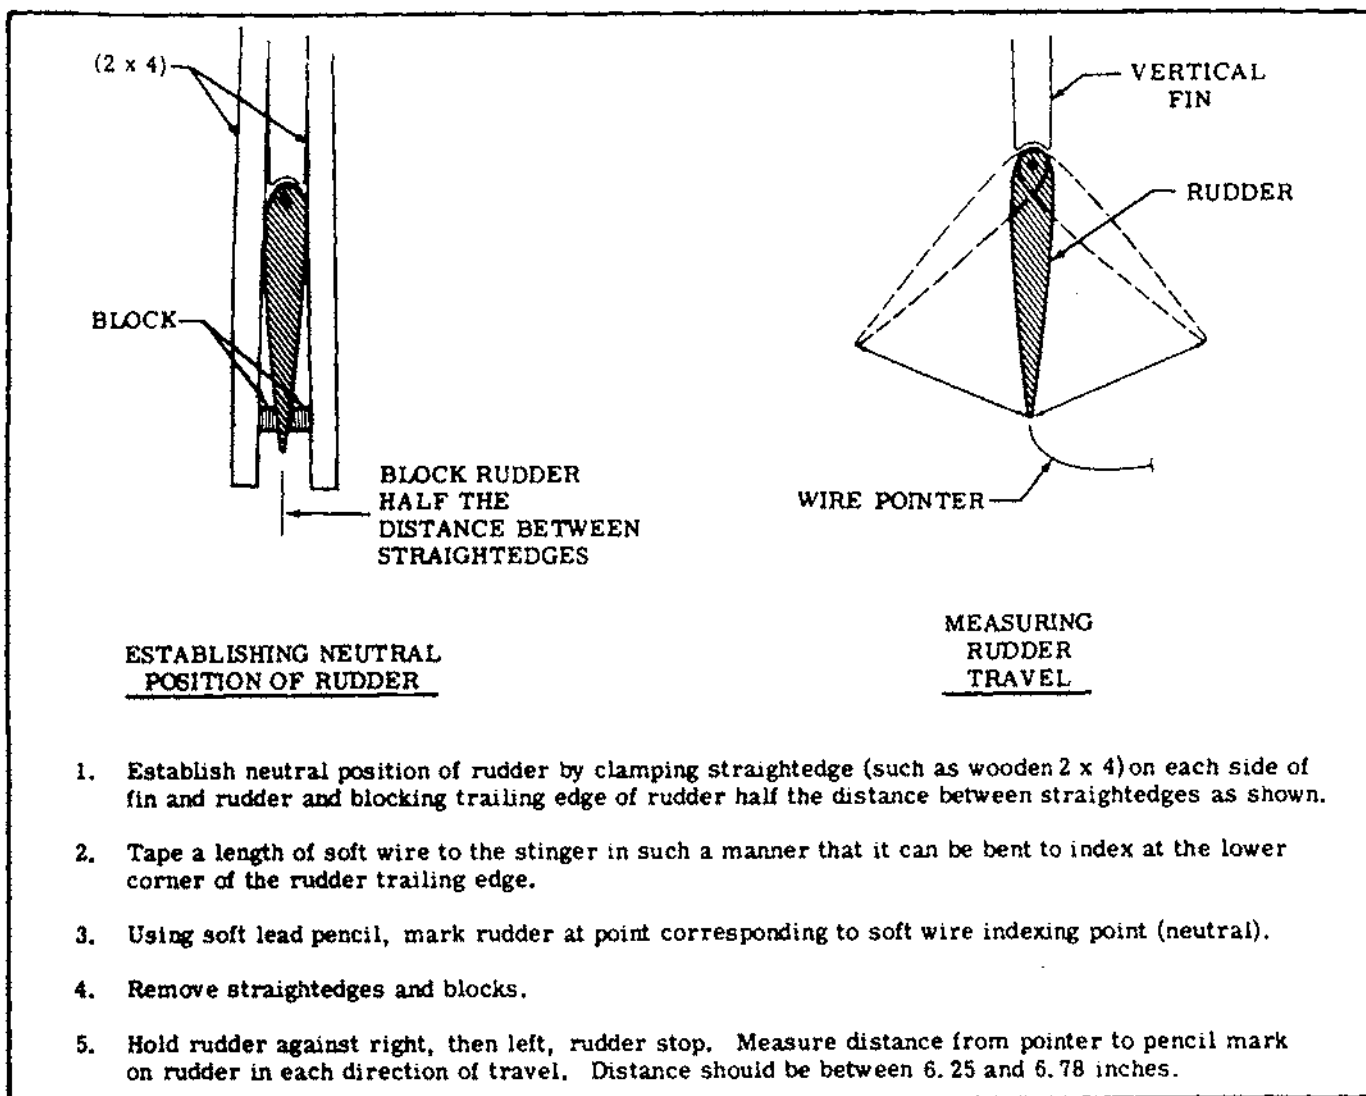
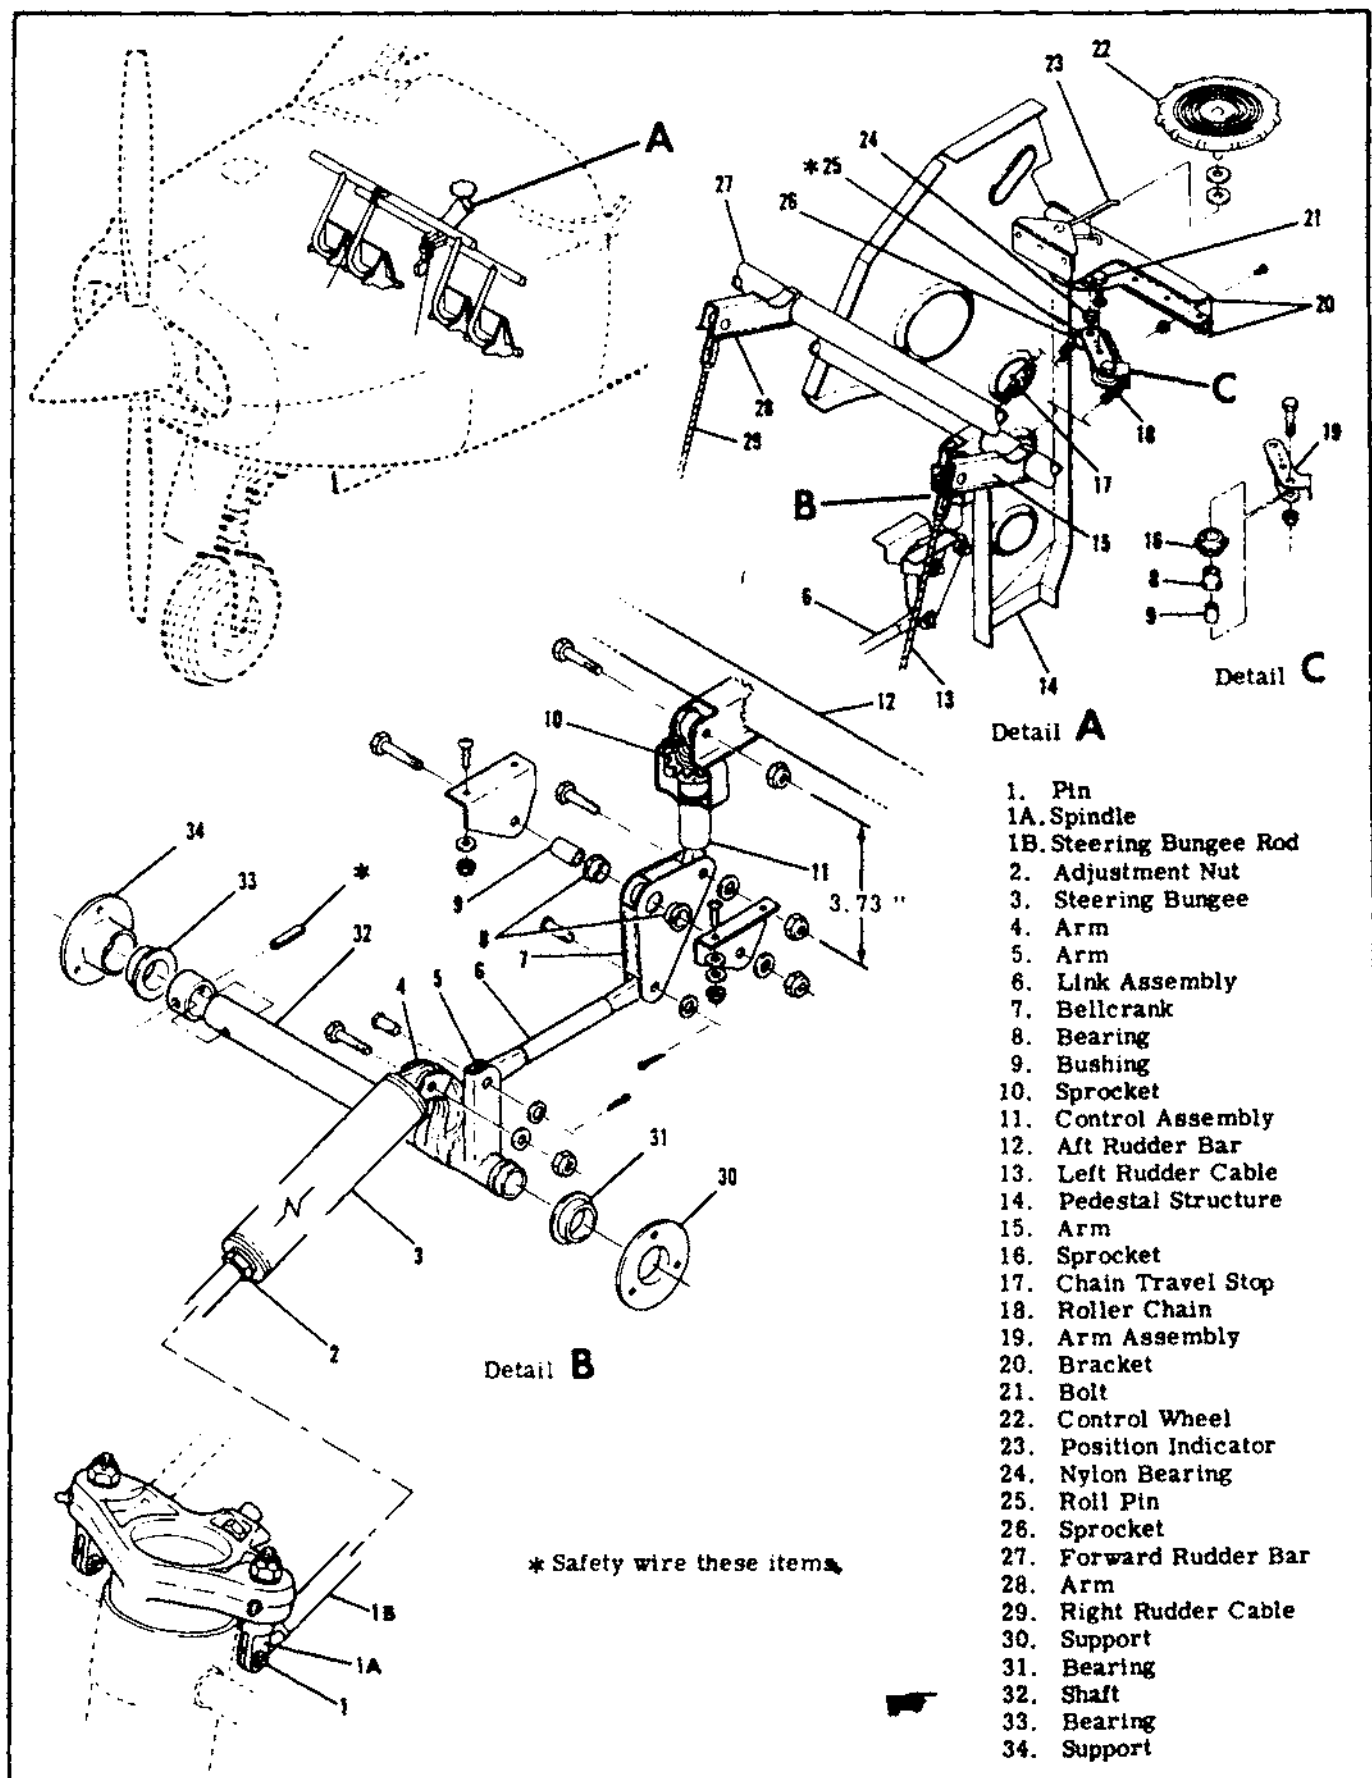

Figure 10-4. Checking Rudder Travel
Figure 10-5. Rudder Trim Control System
- a. Adjust the travel stop bolts (20) to degree of travel specified in figure 1-1. Figure 10-4 illustrates the correct travel and one method of checking.
- b. Relieve the cable tension at turnbuckles (15).
- c. Remove pin (index 1, figure 10-5) securing steering bungee rod to steering collar spindle.
- e. Adjust turnbuckles (15) evenly to streamline rudder and obtain proper cable tension. Safety turnbuckles (15).
10-12. RUDDER TRIM CONTROL AND NOSE WHEEL STEERING SYSTEM. (Refer to figure 10-5.)
10-15. STEERING BUNGEE. (Refer to figure 10-5.)
10-17. TRIM CONTROL WHEEL. (Refer to figure 10-5.)
10-19. RIGGING. (Refer to figure 10-5.)